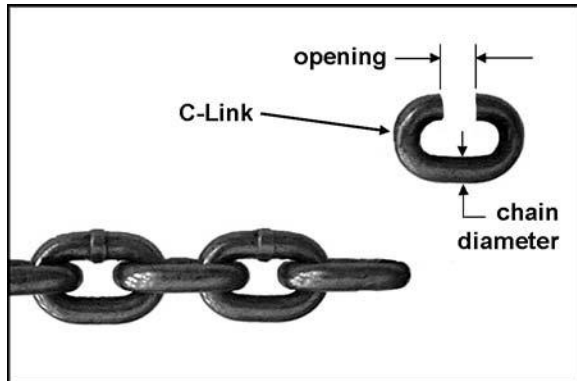

Figure 6
7. Check that the chain is not twisted at the bottom hook. All welds should face the same direction (see Figure 6). For hoists with two or more falls of chain, make sure the bottom hook is not turned over. This may cause the chain to twist.